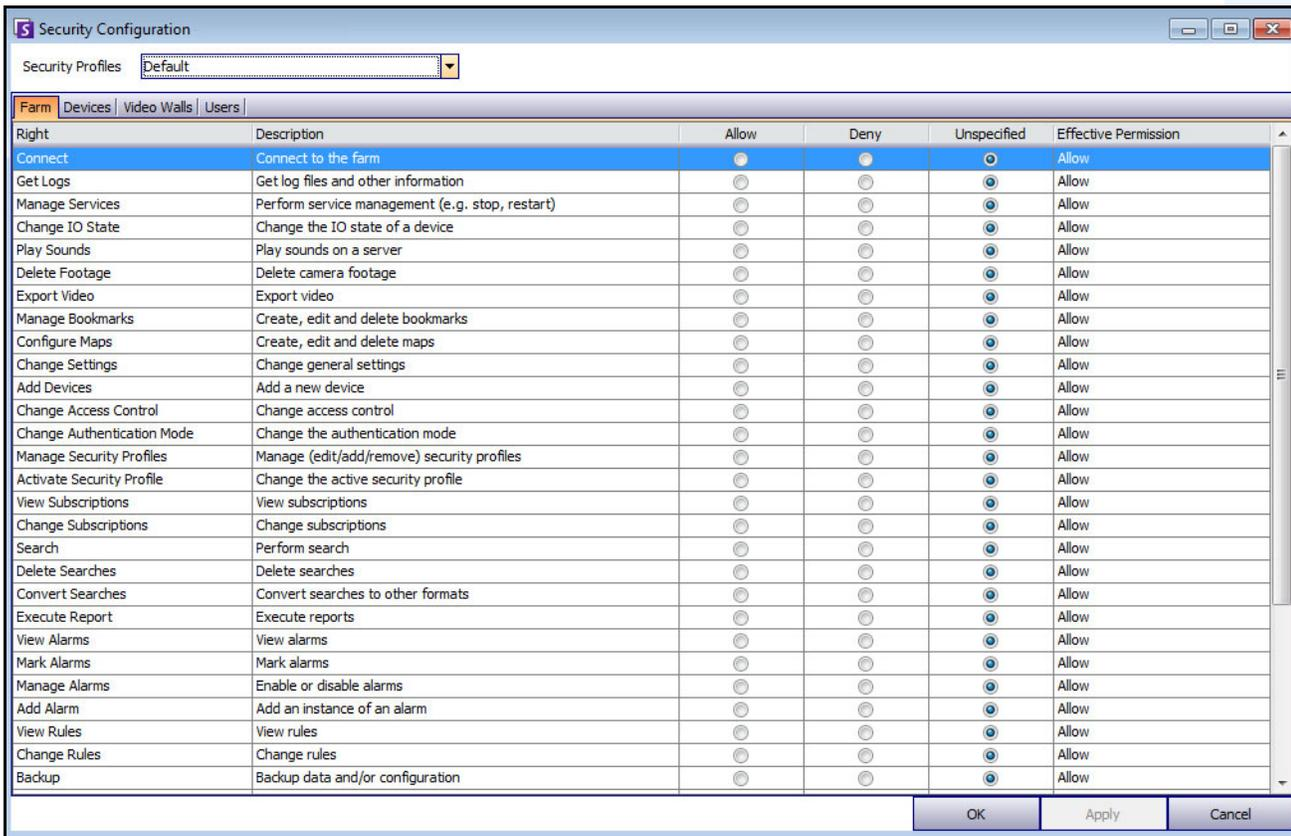

Figure 10. Security Permissions
4. Select the **Allow**, **Deny**, or **Unspecified** option for each **Right** (see Figure 10 on page 31).